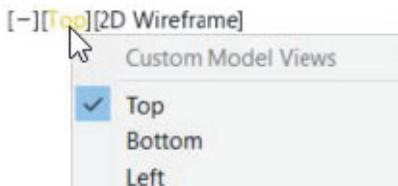

Figure 1–28
6. In the drawing window, select the **Visual Style Controls** label and select **Top**, as shown in Figure 1–28.